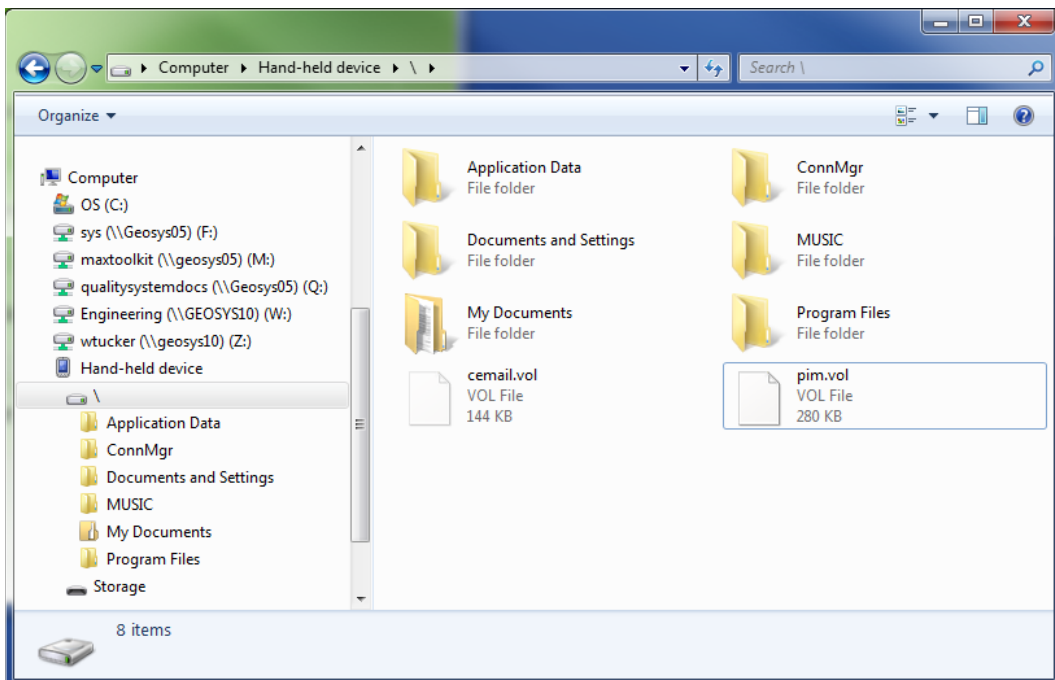

Figure 22 - Hand-held device root folder contents
- 2) In the Explorer Window, double-click the icon labeled “\” to navigate to the hand-held PC’s system root shown in Figure 22.